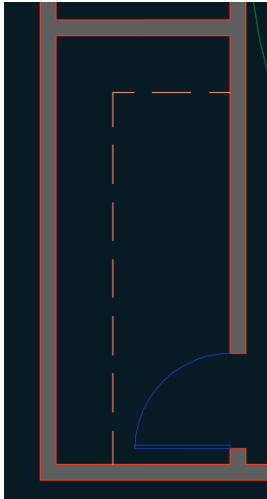

FIGURE 6.21 Hidden lines representing a high shelf in the closet
- Type **48** (or **50** for metric), and press Enter. The lines appear with breaks indicating that the shelf is above the section plane (see Figure 6.21).